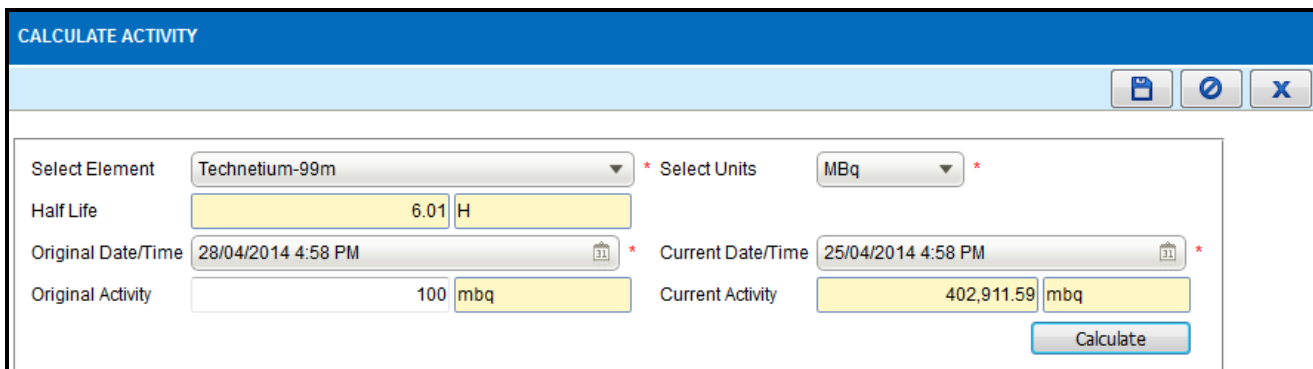

Figure 3.4-8 Calculate Activity
- Click on the  button and **Current Activity** field will be automatically calculated by system as per Figure 3.4-8.
- Click on the  button to save record as per Figure 3.4-8.